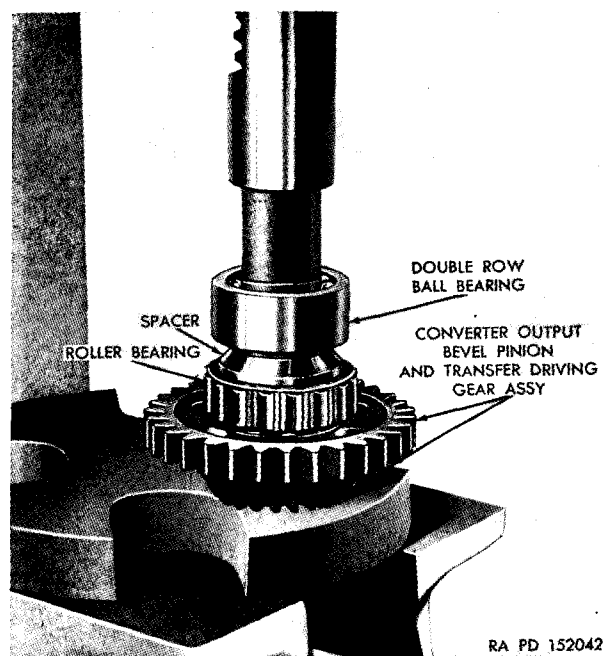

Figure 303. Installing bevel pinion bearing.
- (18) Install the spacer with its largest OD next to the bearing. Install the double-row ball bearing, lettered side out, and seat it using an arbor press or drift (fig. 303). Install the lock washer and lock